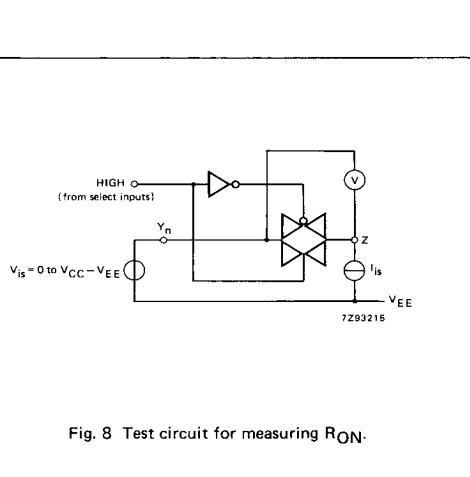

Fig. 8 Test circuit for measuring  $R_{ON}$ .
2. For test circuit measuring RON see Fig. 8.